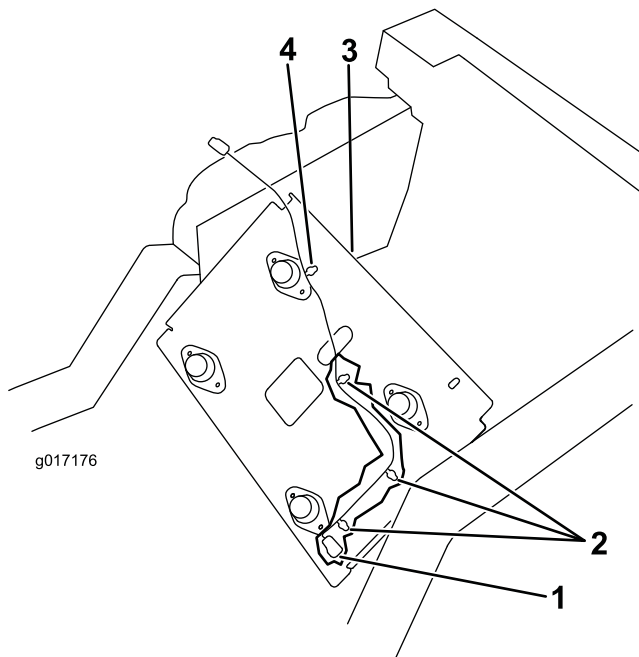

Figure 6
3. Plug the new harness into the traction unit harness (Figure 6)
4. Insert the (3) harness wire clips into the holes in the seat plate (Figure 6).
5. Route the harness up through the hole in the seat base and insert the remaining harness clip into the hole in the seat base (Figure 6).